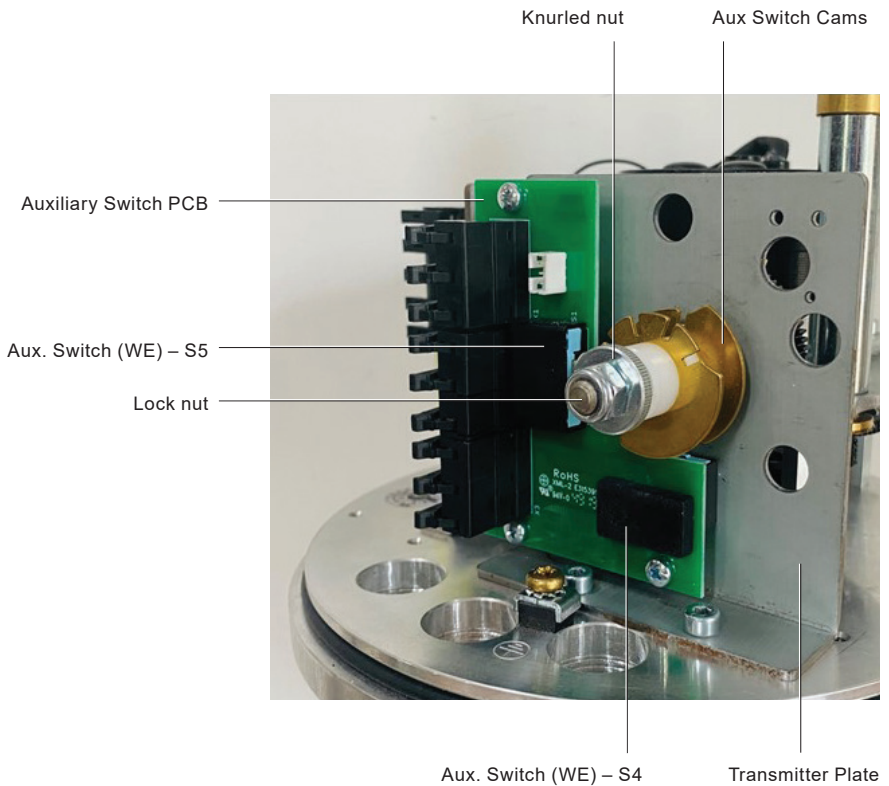

Fig. 8 Auxiliary Travel Switch (WE) Arrangement (1-6 kN) (225 lbf - 1349 lbf)
- Assemble the transmitter plate complete with auxiliary travel switches to the actuator base plate. See Fig. 8 "Auxiliary Travel Switch Arrangement (1-6 kN) (225 lbf - 1349 lbf)" for product orientation